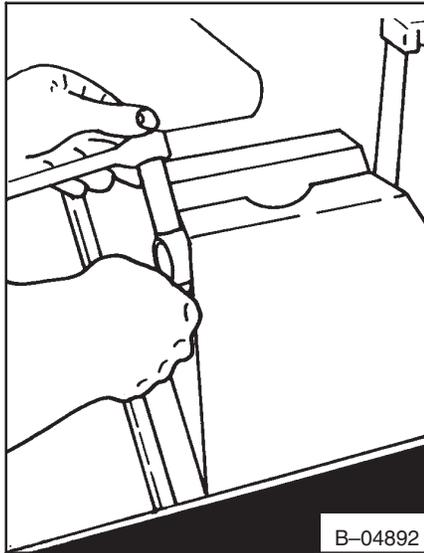

Fig. 2-84 Installing Bolt And Locknut
3. Install the bolt and locknut in the base end pin and tighten (Fig. 2-84).